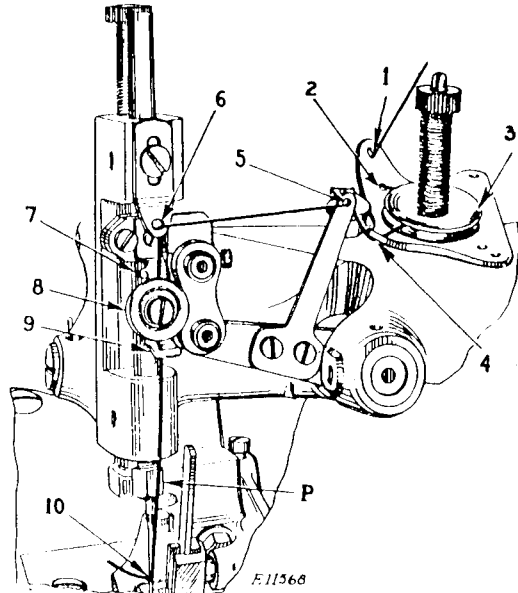

FIG. 7. THREADING THE NEEDLE
Loosen the clamping nut (P, Fig. 7) at the lower end of the needle bar and put the needle up into the bar as far as it will go, with the clearance above the eye at the back, or farthest from you. Then tighten the clamping nut (P).